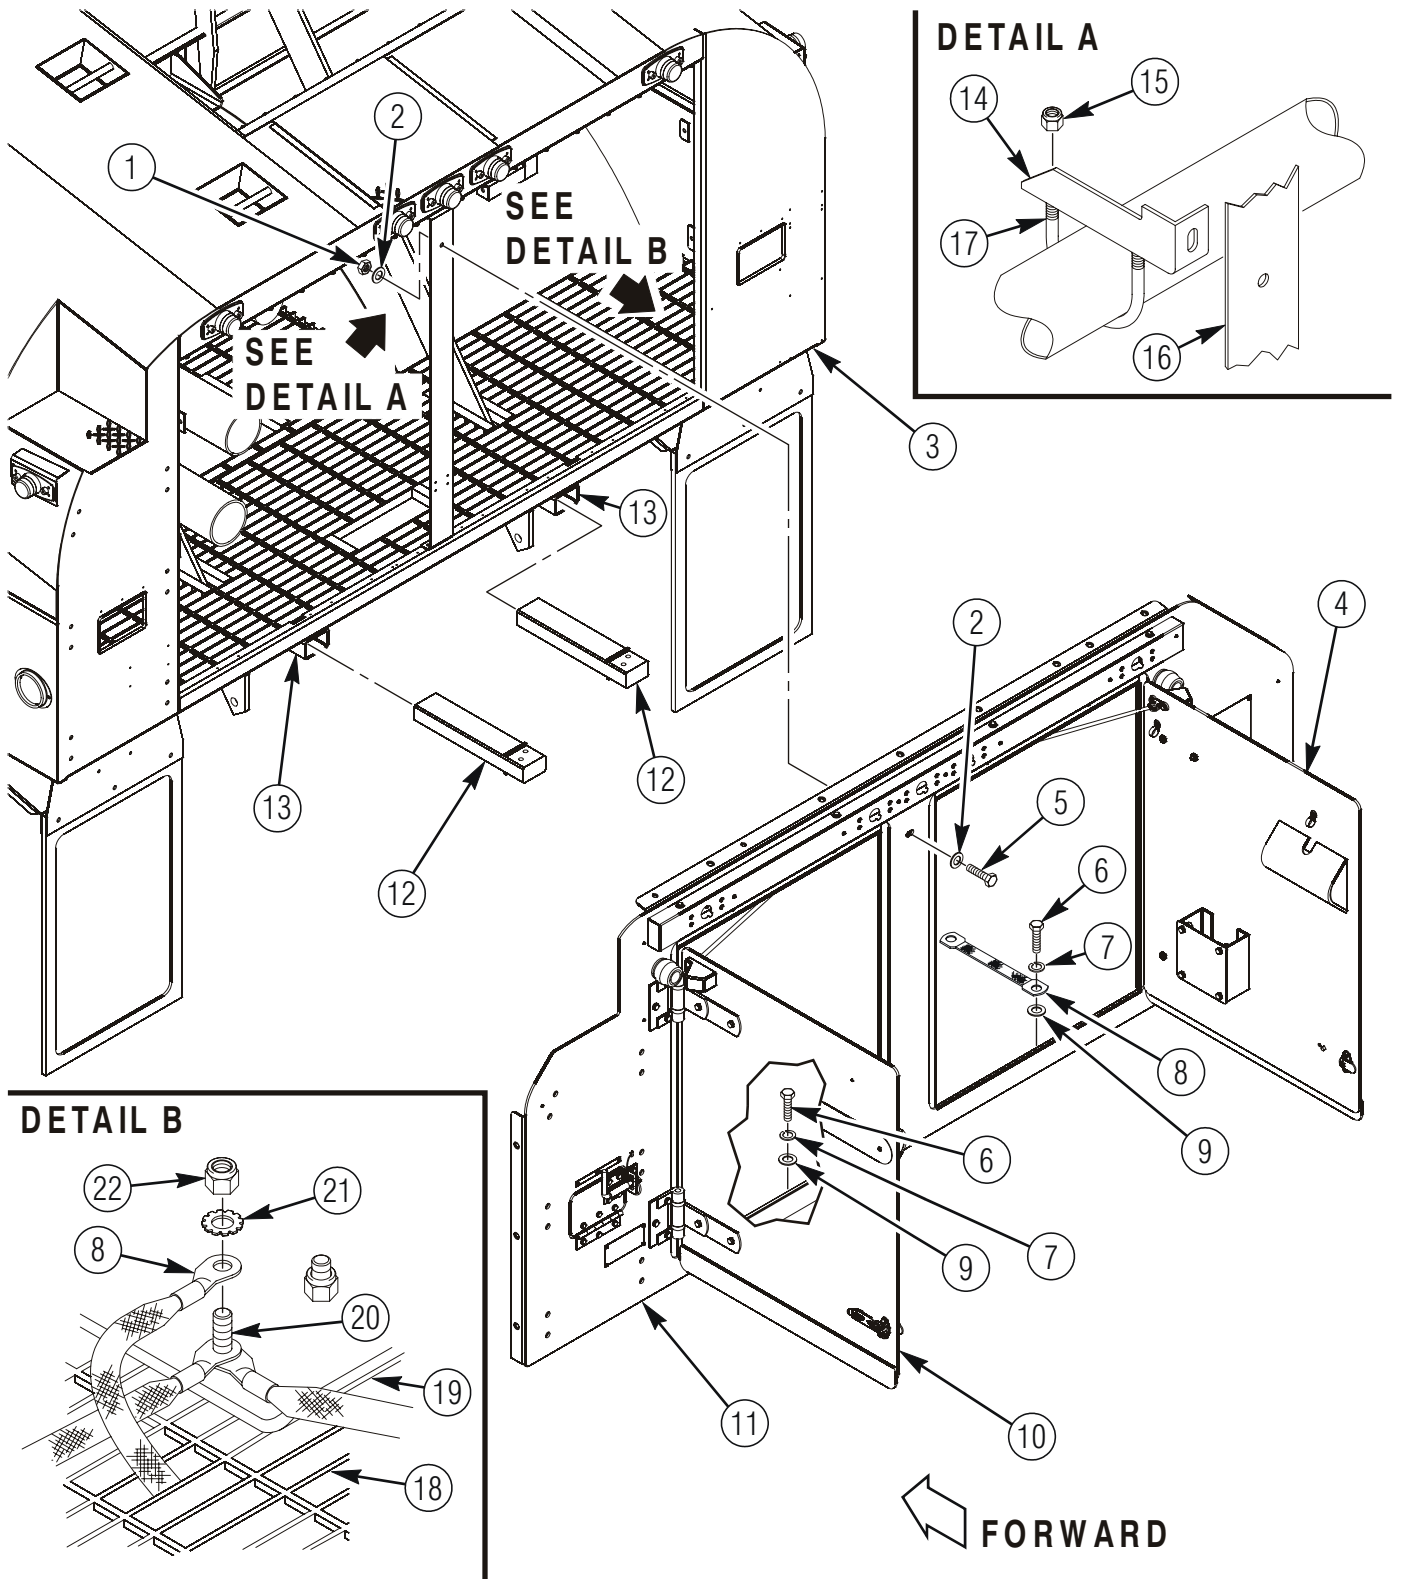

Figure 2.
9. Install 4397000-072 capscrew (5), two 4397005-015 washers (2), and 4397064-005 locknut (1) as shown in figure 2. Do not tighten locknut (1) at this time.
10. Remove locknut (22) and star washer (21) from capscrew (20) in static reel mount (19) as shown in figure 2.
11. Route ground strap (8) under pump module (3) and up through floor grate (18) near static reel mount (19). Refer to figure 2.
12. Install ground strap (8) on capscrew (20) and secure with star washer (21) and locknut (22) as shown in figure 2. Tighten locknut (22) to 37 lb-ft.
15. Tighten locknut (1) to 37 lb-ft. Refer to figure 2.
16. Tighten four capscrews (6) securing rear panel assembly (11) to rear panel assembly attach bars (12) to 60 lb-ft. Refer to figure 2.
1. Repair finish area on rear panel assembly (11) where ground strap (8) is attached, using appropriate primer specified per MIL-C-53072. Refer to figure 2.